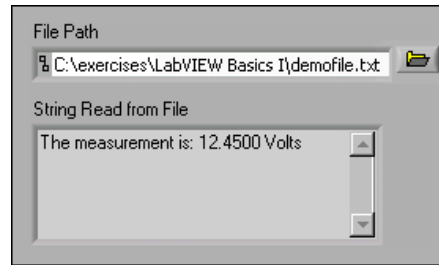

Figure 9.17
1. Open a blank VI and build the front panel shown in Figure 9.17 using the file path control located on the **Controls»Text Controls** palette and a string indicator located on the **Controls»Text Indicators** palette.